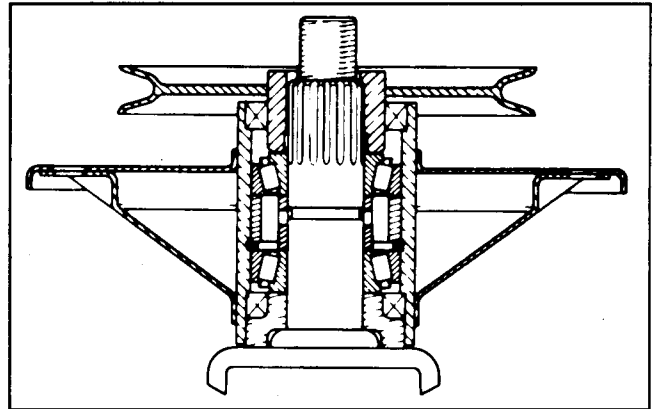

Figure 45
3. Thoroughly oil the bearing cups and using an arbor press, push the bearing cups - smallest inside diameter first - into the top and bottom of the spindle housing (Fig. 45). The top bearing cup must contact the spacer that was installed in step 2, and the bottom bearing cup must contact the snap ring to be sure of the correct assembly of parts. Insure that the assembly is correct by supporting the first cup and pressing the second against it (Fig. 46).
7. Slide the bearing spacer onto the spindle shaft. Carefully slide the spindle shaft through the spindle housing. The bottom seal and bearing spacer fit together when the spindle is installed (Fig. 45).